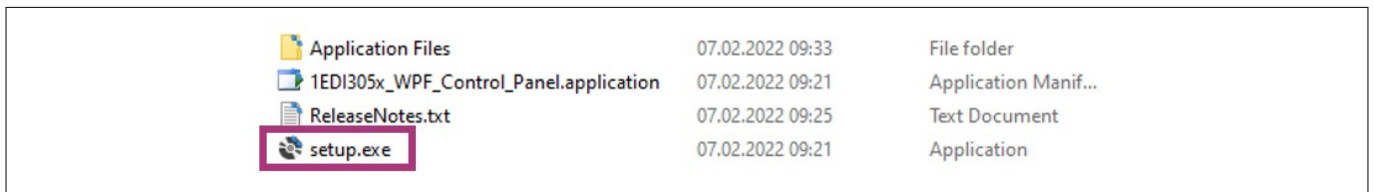

Figure 21 .NET Framework 4.8 download instruction – application file
3. Run the “setup.exe”. See Figure 21